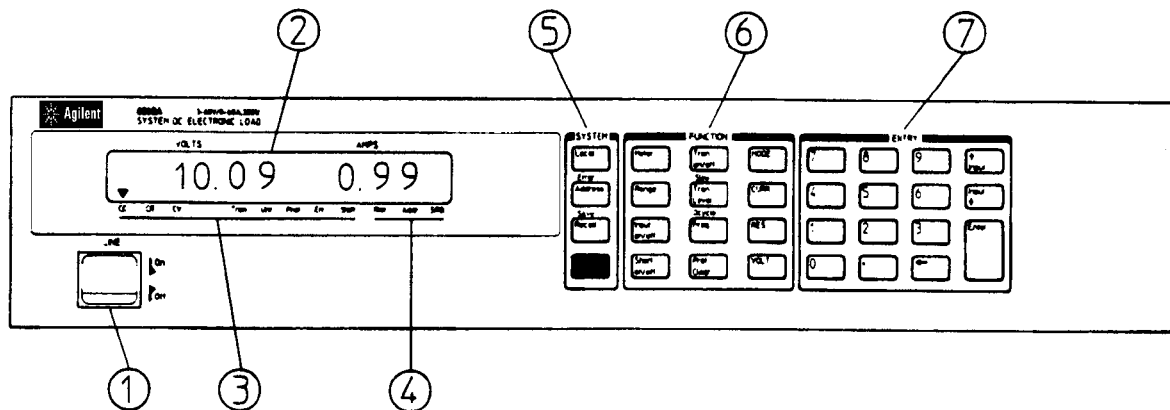

Figure 4-1. Front Panel
The Electronic Load can be programmed locally using the controls and indicators on the front panel. As shown in Figure 4-1, the front panel’s controls and indicators include a 12-segment LCD display and a keypad having three groups of keys (SYSTEM, FUNCTION, and ENTRY). Table 4-1 gives a brief description of each control and indicator.
3 Electronic Load Status Annunciators	CC-Indicates the Electronic Load is in the constant current (CC) mode. Note that Figure 4-1 shows the Electronic Load is in the CC mode (CC annunciator is on). CR-Indicates the Electronic Load is in the constant resistance (CR) mode. CV-Indicates the Electronic Load is in the constant voltage (CV) mode. Tran-Indicates that transient operation is enabled. Unr-Indicates that the Electronic Load is unregulated (applies only in the CC mode and in the middle and high ranges of the CR mode). Prot-Indicates when any protection features (CC, OV, OP, OT, etc.) are active. Err-Indicates that remote programming error(s) have occurred. Shift-Indicates that the shift key, bottom key (blue) in SYSTEM group, was pressed.